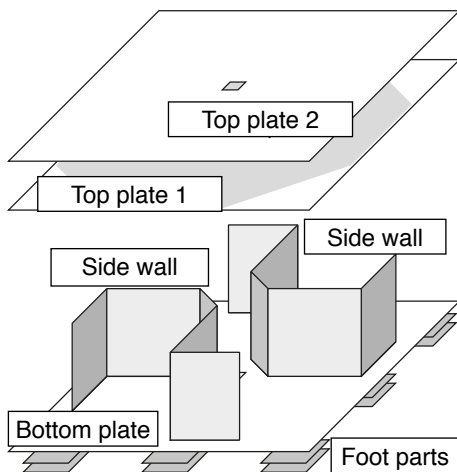

Fig 4: The calibration bench
Step 36: Remove the small square from the bottom plate [G1, Sheet 10] and fold the side walls [G2 and G3, Sheet 10] sharply forwards along the first groove line and backwards along the other ones. Put the bottom plate onto your work surface and glue the side walls sideways onto their respective glue markings (see Fig 4). Push the side walls against the bottom plate until the glue has set to make sure they sit gap-free on the bottom plate.